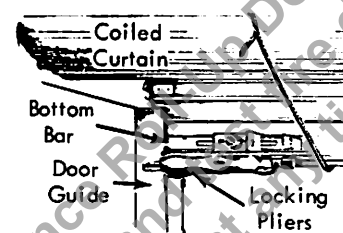

FIGURE 2
3. Raise Curtain to "UP" position and clamp locking pliers on Guide as shown in Fig. 2.